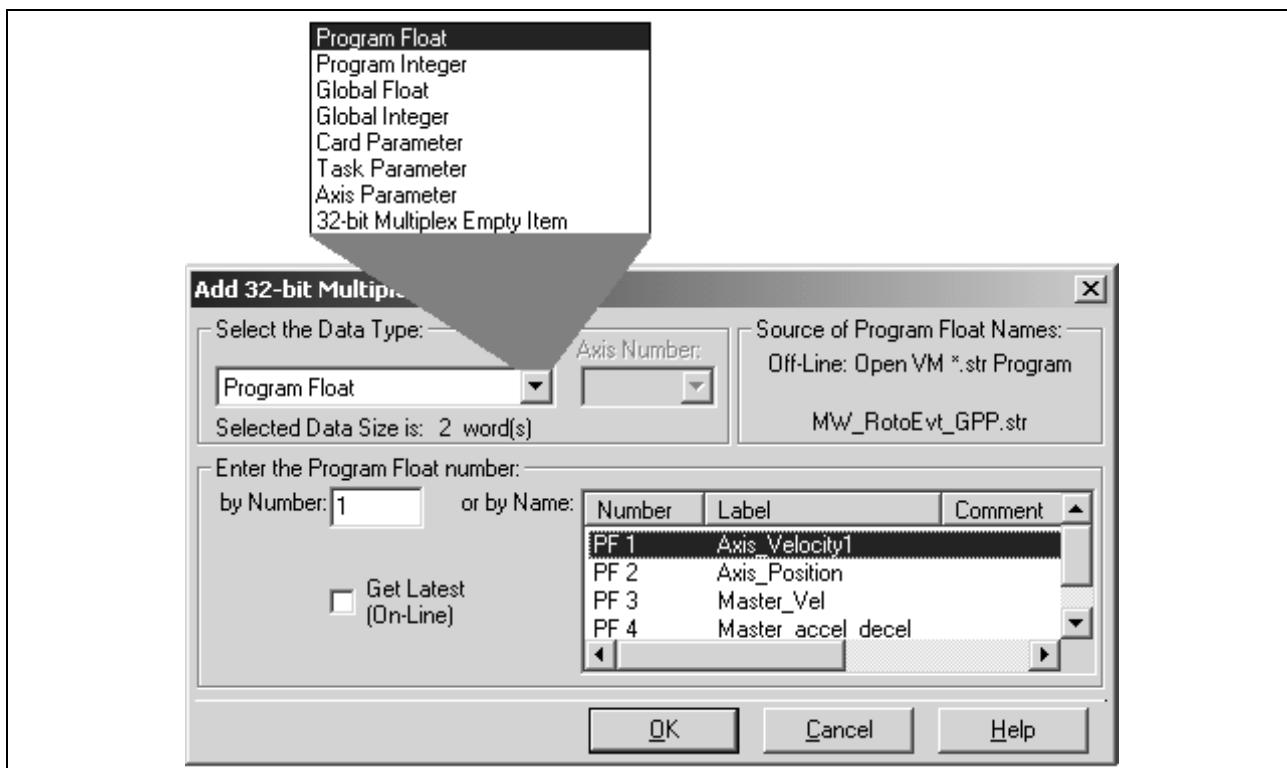

Fig. 8-15: Adding a Multiplex Item to the Container (32-bit example)
3. To add to the selected multiplex container, click No. The screen in *Fig. 8-15* below is an example for adding a 32-bit multiplex item.